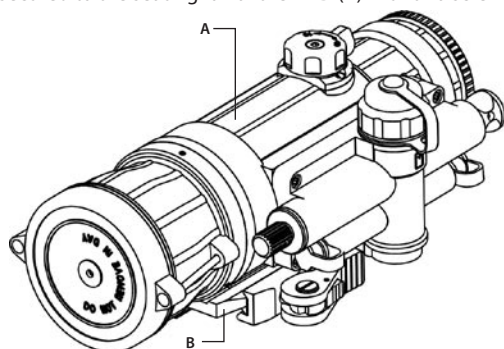

FIGURE 2-1. CO-MR NIGHT VISION CLIP-ON SYSTEM AS DELIVERED
The CO-MR consists of two primary parts: the night vision device (hereafter referred to as NVD) and the quick-release mount, or mount. The CO-MR is delivered already assembled, as shown in Figure 2-1; the mount (B) should be secured to the seating rail of the NVD (A) with two screws.